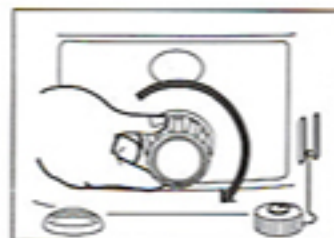

Fig. 9
- (1) Fully turn the wick adjuster knob clockwise to raise the wick to the maximum height. When the wick is completely up the arrow mark of the control dial will point to the "HIGH POSITION".(Fig. 9)
- (2) Ignition by igniter